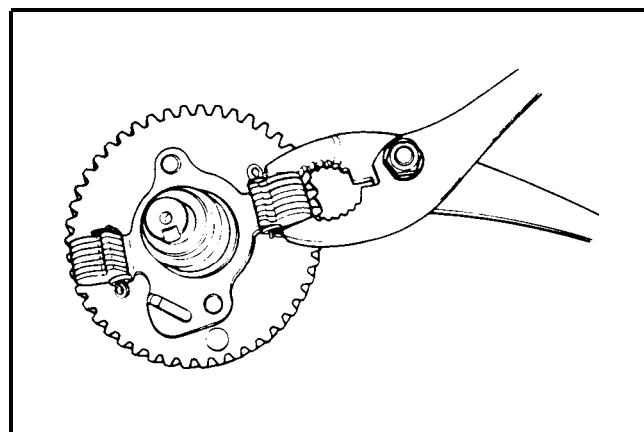

Figure 103
11. Mount the governor flyweight assembly to the camshaft drive gear. Make sure the flyweights are properly retained with two cotter pins. See Figure 103.